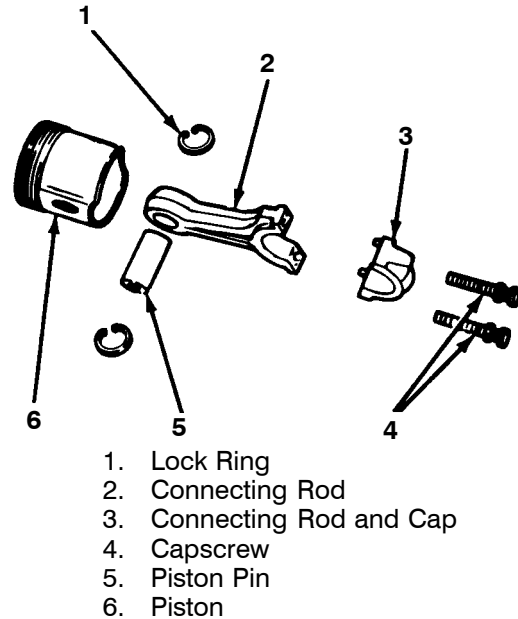

Figure 3-13. Connecting Rod, Piston, and Pin
2. Match mark and disassembly pistons, pins, connecting rods, and caps. (See Figure 3-13)